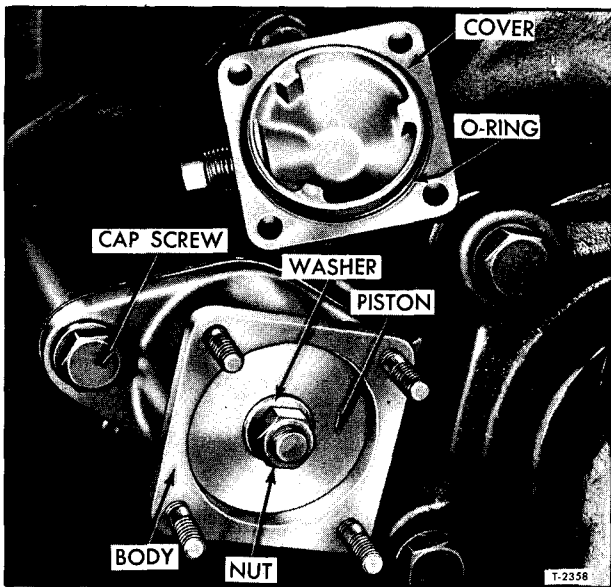

Figure 16—Inter-Axle Air Shift Chamber Components (Eaton)
2. Remove four stud nuts and lock washers attaching cover to inter-axle differential shift cylinder. Remove cover and ring seal (fig. 16).
3. Remove nut, washer, and ring seal (fig. 16) attaching piston to shift fork shaft.
3. Install ring seal over shift fork shaft and into piston counterbore. Install washer and nut, then tighten nut (fig. 16).
4. Install new seal ring onto cover (fig. 16), then install cover on cylinder. Install four lock washers and stud nuts.